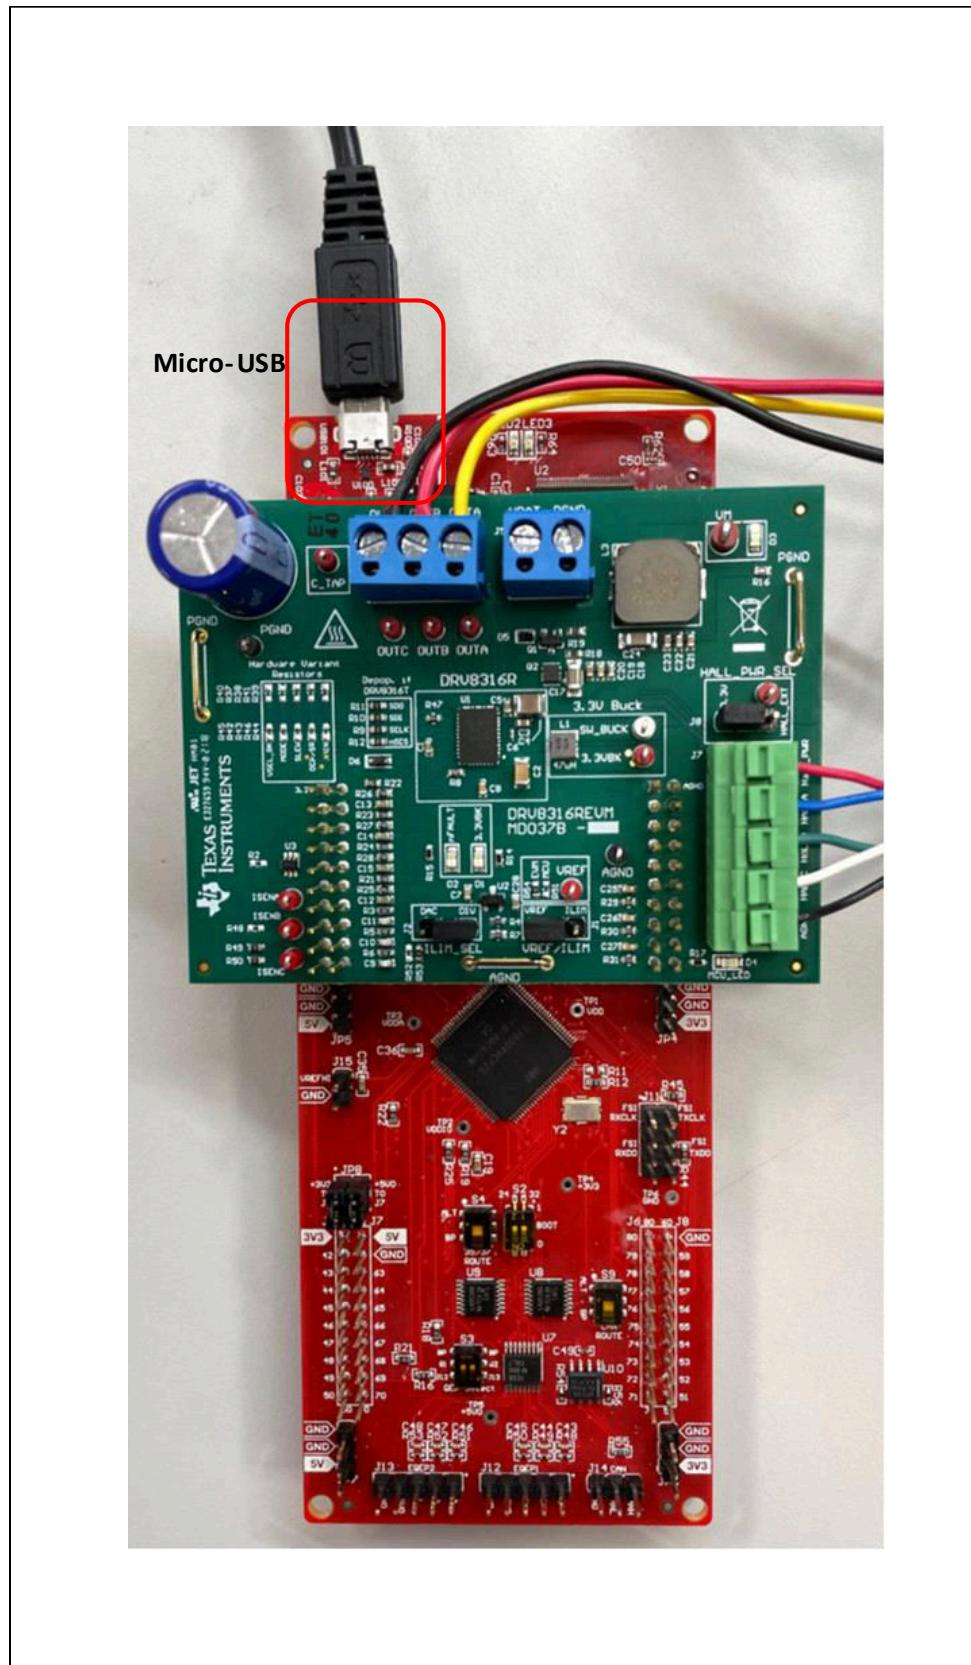

Figure 4-7. DRV8316xEVM on Headers J1/J3 and J2/J4 of LaunchPad™ and Micro-USB Plugged Into LaunchPad™
3. Mate the DRV8316xEVM onto the top half of the LAUNCHXL-F280049C (Launchpad Headers J1/J3 and J2/J4) as Figure 4-7 shows. The motor and power connectors should face the same direction as the Micro-USB connector on the LaunchPad.
Figure 4-7 shows where the Micro-USB cable is plugged into the LAUNCHXL-F280049C to provide communication between the LaunchPad firmware and GUI as well as the correct installment of the DRV8316xEVM to the J1/J3 and J2/J4 headers of the LaunchPad.
1. Mate the DRV8316xEVM board to the top half of the LAUNCHXL-F280049C LaunchPad development kit (mates to J1/J3 and J2/J4 of the LaunchPad, as in Figure 4-7). Ensure resistor R13 is DNP on the bottom of board to separate buck voltage from the USB power supply voltage.